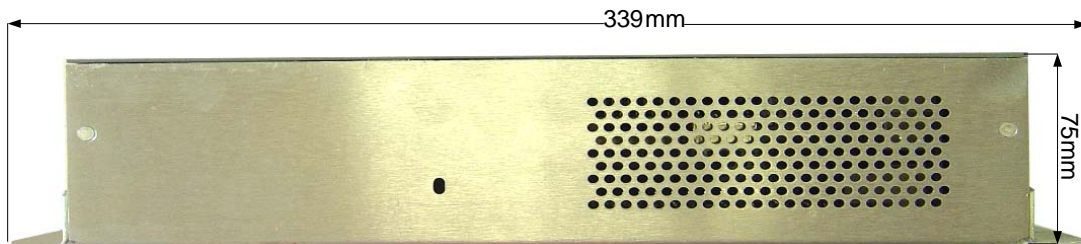

Figure 6 Side Panel Dimensions
- ❑ Figure 6 - Side Panel Dimensions